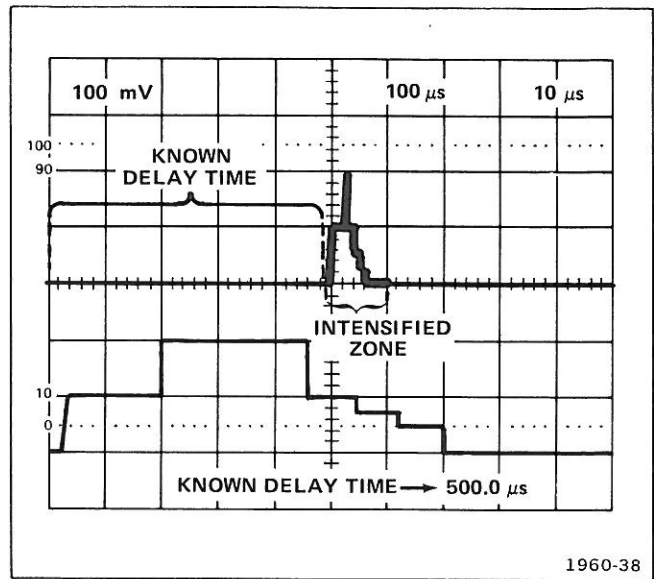

Fig. 1-12. Examining an event that occurs within a selected time interval after a known delay time in the delay-time mode.
- Set the appropriate triggering, position, deflection-factor, and sweep-rate controls for the desired dual-trace display. See the example in Figure 1-12.
*If there is excessive jitter in the delayed (B) sweep display, refer to the Triggered Delayed-Sweep Magnification discussion.*
- Set the delayed (B) sweep rate (i.e., the intensified zone length) for the desired time interval after the delay time selected in part c. Multiply the delayed (B) sweep rate by 10 to determine the actual displayed delayed (B) sweep time interval. See the example in Figure 1-12.
- Observe the magnified event to be examined on the delayed (B) sweep.